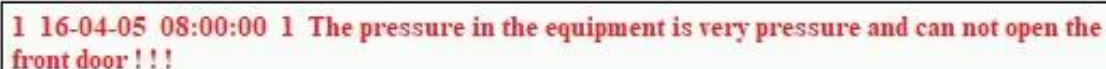

Figure 4
After sterilization, the internal chamber pressure is $\pm 10\text{KPa}$. Opening the front door also requires you to switch the touch screen to the door manual screen. After pressing the "open the front door" button on the touch screen, the vacuum pump and the electric ball valve act first, and the compressed air in the sealing groove of the front end box is extracted, and pull the sealant strip back to the sealing groove. After 15 seconds, the door motor moves (if the starting position of the door is not closed, the delay of 15 seconds is unnecessary). In the process of opening the door, if the door motor appears overcurrent protection, indicating that the door meets abnormal resistance in the opening process, the control system will automatically cancel the door opening operation, and prompt the corresponding information, as shown in Figure 4. During the opening of the front door, the front door status indicator light is flashing. When the door panel reaches the opening position, the front door indicator light is out, and the opening front door operation is completed, and the sealed door can be opened.
① The internal compartment pressure is not between -10Kpa and 10Kpa. If the door is opened, the alarm screen shown in Figure 4 will appear: